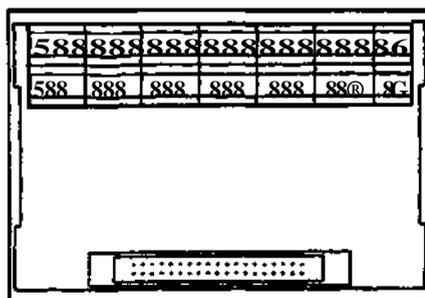

Fig 6.9 Screw terminals unit
Analogue signals are connected on a screw terminal unit as fig. 6.9. This unit (3) is to be placed on the second bar to the left of the first digital screw terminal unit.